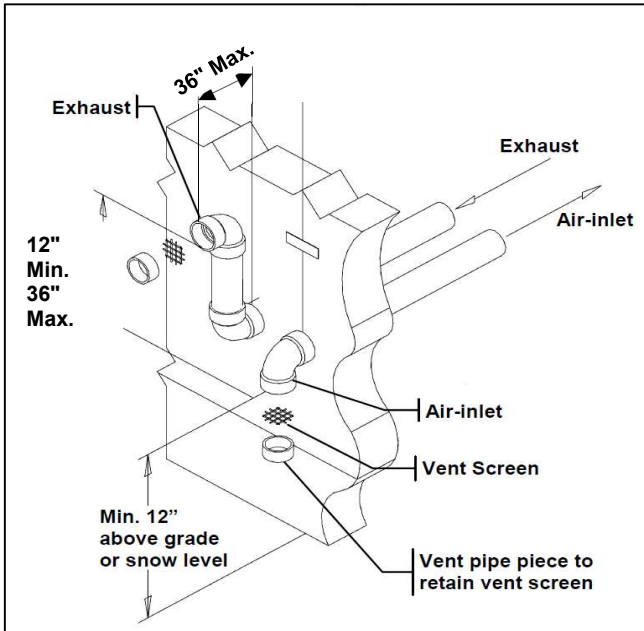

Figure 10.14
3. When using two pipe terminations the air intake piping must terminate in a 90 degree down-turned elbow as shown in Figure 10.14 or 10.16. This arrangement avoids recirculation of flue products into the combustion air stream.
4. The exhaust piping must terminate horizontally in a section of straight pipe or an elbow pointed outward or away from the air inlet, as shown in Figure 10.14 or 10.16
Do not extend the vent pipe outside the sidewall beyond the dimensions shown in Figures 10.14, 10.15, 10.16, 10.18, 10.19 and 10.20. Extended exposure of the vent pipe could cause condensate to freeze and block the vent pipe, resulting in substantial property damage, serious injury, or death